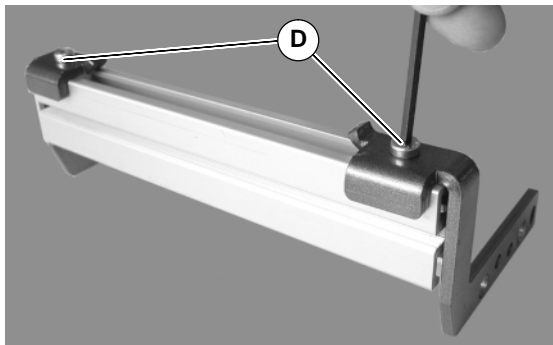
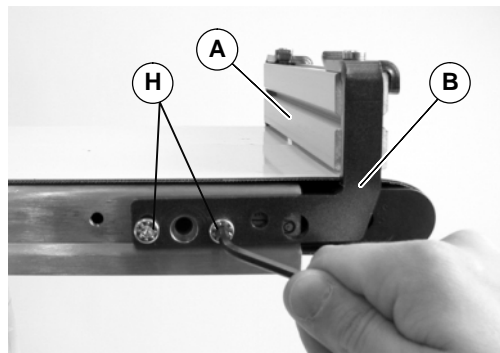

Figure 6
Figure 8
6. Loosen screws (D of Figure 6) on both sides of end stop assembly.
8. Place the remainder of the end stop (A & B of Figure 8) on end of conveyor and attach with head plate screws (H) tighten to 57 in-lbs (6.4 N-m).
9. Center the end stop (A of Figure 8) on the conveyor and tighten screws (D of Figure 6) to 57 in-lbs (6.4 N-m).